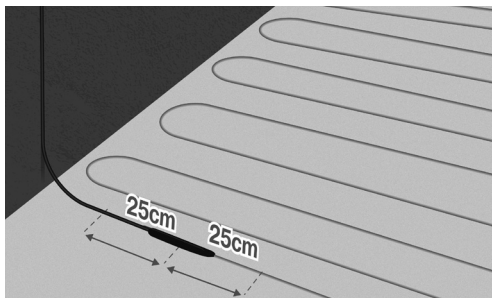

Fig. 9. Lay the cable straight on each side of the joint (- grid)
7. The cables are fastened approx. 25 cm on either side of the connection between the cold cable and heating cable, measured from the centre of the joint. Be sure to start so that cold cable can reach the thermostat. (Fig. 9).